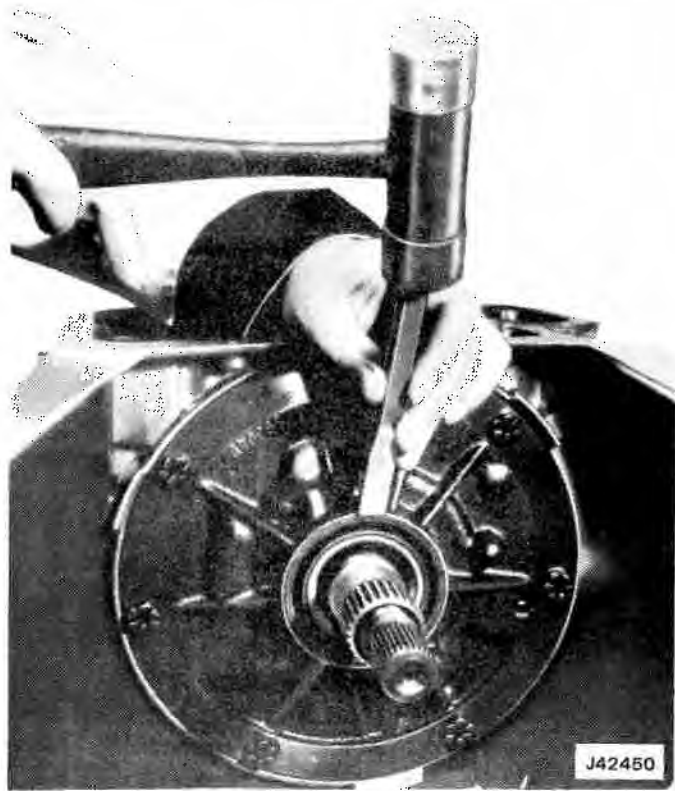
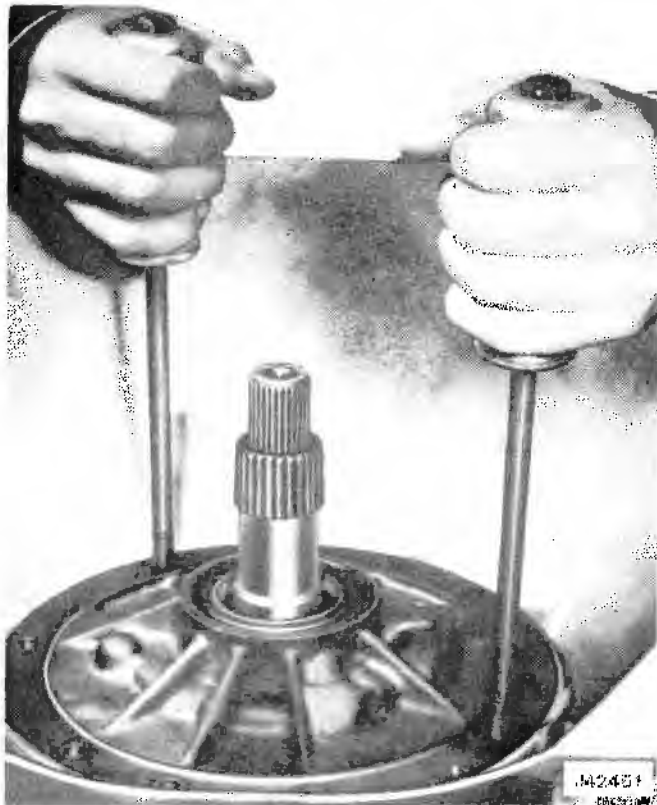

Fig. 7-20 Removing Front Seal
Fig. 7-21 Removing Oil Pump Assembly
- (1) If necessary to replace, pry front seal from oil pump (Fig. 7-20).
- (2) Remove pump attaching bolts and bolt washers.
- (3) Install 3/8-16 inch threaded slide hammers into threaded holes in pump body at 5 and 10 o'clock positions.
- (4) Remove pump assembly from case (Fig. 7-21).
- (5) Remove and discard pump-to-case seal ring and gasket from oil pump.